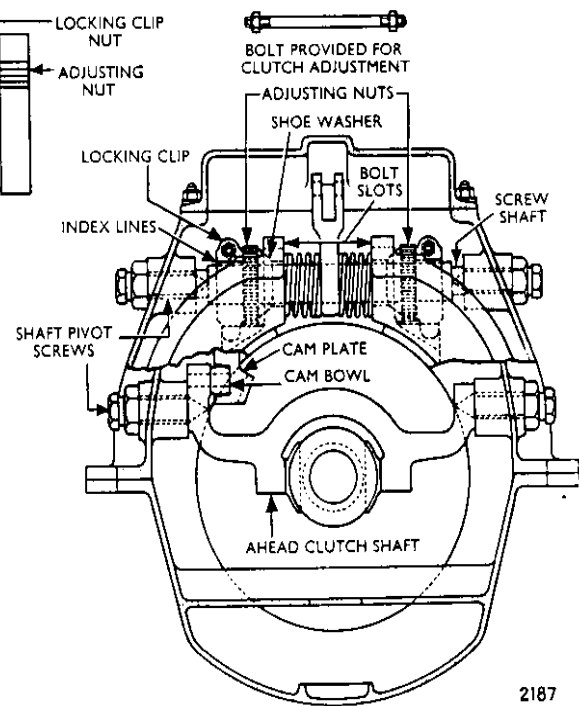

Fig. 5
12. **Adjustment of Astern Clutch or Brake.**—Remove the gear case cover having previously put the gear into "reverse." Next slacken the bolts of the two locking clips, and turn both the adjusting nuts away from the shoes, see Fig. 5. The long bolt that is provided in the tool kit, must now be placed in the slots at the top of the brake shoes. Tighten this bolt, but not too much, and thus clamp the shoes onto the drum. After this, turn one adjusting nut until it is in contact with the shoe washer, hold it in this position with the fingers whilst the locking collar nut is tightened. Repeat this operation on the other adjusting nut. The two adjusting nuts will now be adjusted equally, but there will not be sufficient load on the brake shoes, consequently, further and final adjustment is necessary.
14. **Clutch Mechanism.**—The three shafts of this mechanism, i.e. the astern clutch screw shaft, the cam plate crank or shaft, and the ahead clutch shaft are carried by adjustable pivot screws, see Fig. 5. All three shafts are made so that they can be located endwise between their bosses on the gear case walls. To adjust these shaft pivots, proceed as follows:—